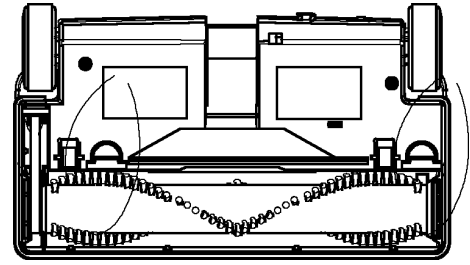

Figure 8
2. Insert a string around the brush roller close to the cogged belt. Pull both ends of the string upwards so that the brush roller disengages from the base (as shown in Figure 8). Similarly, disengage the other end.